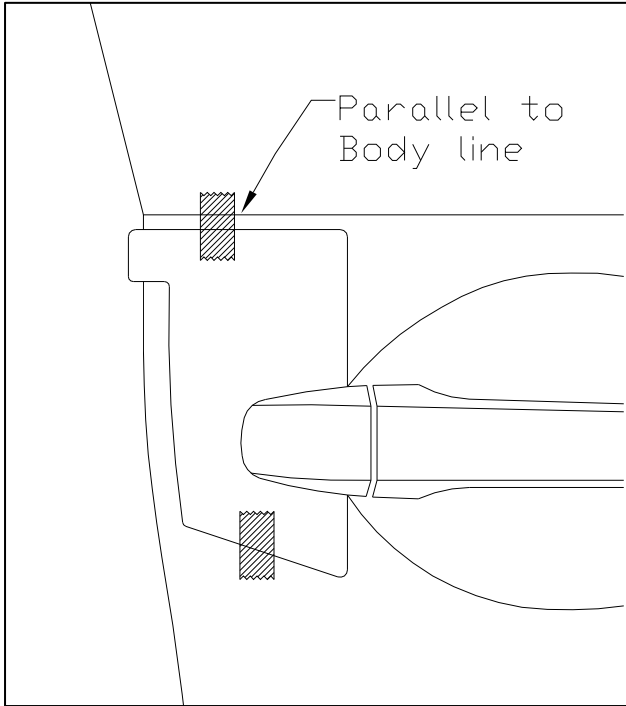

Fig. 1-2
- (c) Select front door template and fit notch around door handle. Adjust as needed to ensure it is parallel to body line directly above the template. If needed, tape into place using painter's masking tape. (Fig 1-2)